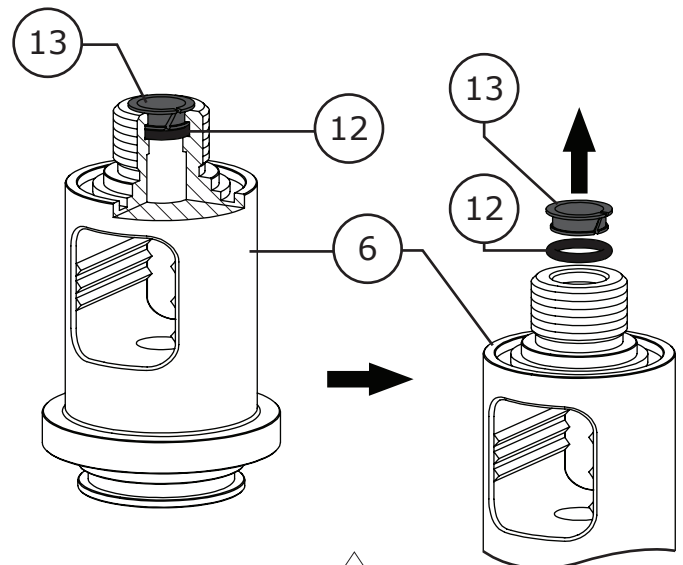

Figure 25 Bonnet Assembly Disassembly Continued
- 9 Flip the bonnet (Key 6) so that it is right side up. Remove the stem bushing (Key 13) and stem o-ring (Key 12), use a pick set if necessary. Refer to Figure 25.